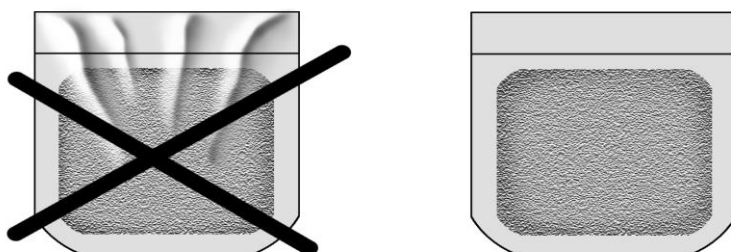

Fig.3
- Avoid any bag folds on the bar to prevent subsequent loss of vacuum (Fig. 3).